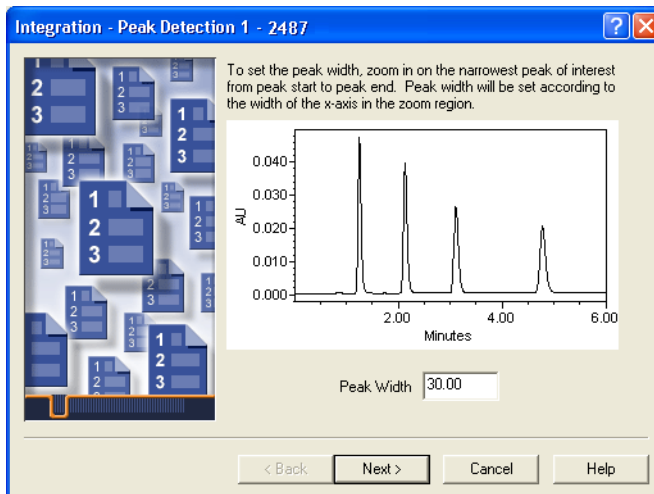

Figure 4-20 Processing Method Wizard, Integration–Peak Detection 1
6. Accept the defaults, then click **OK**. The Integration–Peak Detection 1 page of the Processing Method Wizard appears (Figure 4-20).